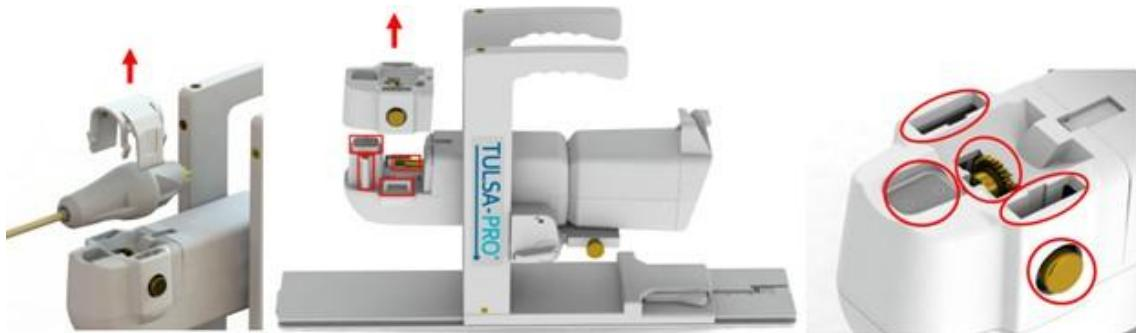

Figure 68: Inspecting the Positioning System
c. Repeat steps 1 and 2 as necessary until no visible soiling remains, closely inspecting the areas around the gripper and gear (Figure 68).